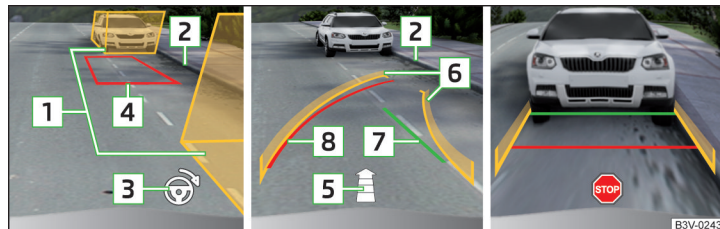

Fig. 282 Screen display
- › Stop the vehicle stop so that there are no obstructions in the gap between the auxiliary boxes **1** » Fig. 282 and the rear box does not extend over the side of the parking space **2** (e.g. kerb).